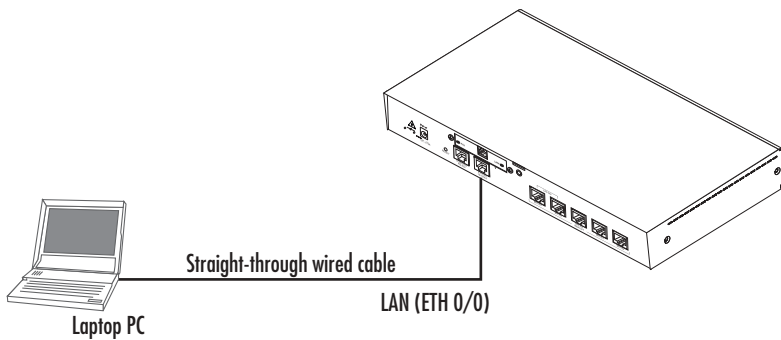

Figure 1. Connecting to the PC
1. Connect the PC's Ethernet port to *LAN (ETH 0/0)* port of the SmartNode 4650 ADSL2+. The SmartNode 4650 ADSL2+ Series is equipped with Auto-MDX Ethernet ports, so you can use straight-through Ethernet cables for host or hub/switch connections. (See figure 1.)